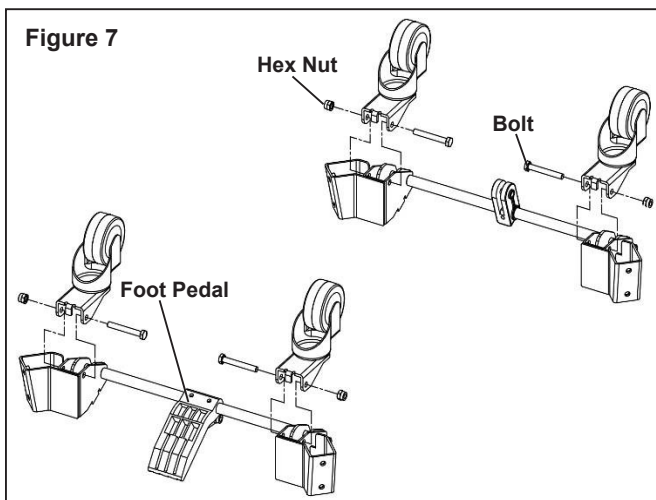

Figure 7
- Remove casters (4), link plate and caster supports (2) from carton.
- Loosen and remove the pre-installed bolts and hex nuts from the brackets (see Figure 7).